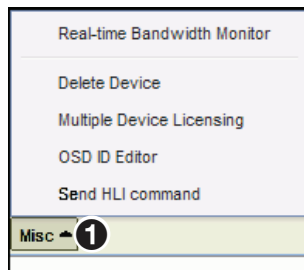

Figure 45. Misc Menu
This menu contains five selections (see figure 45).
Click **Misc** (see figure 45, ❶) to open the list.